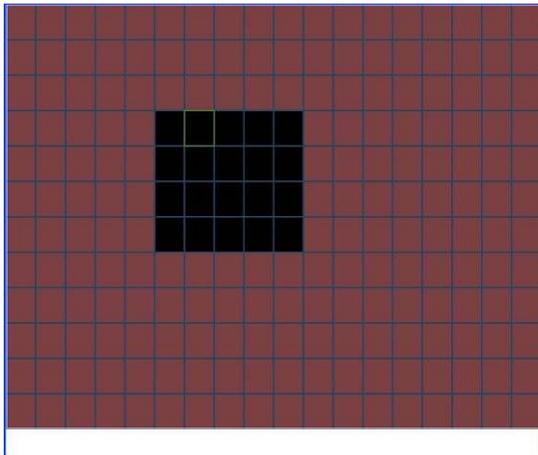

Figure 4-14
- Region: Click select button, the interface is shown as in Figure 4-14. Here you can set motion detection zone. There are 396(PAL)/330(NTSC) small zones.
In Figure 4-14, you can left click mouse and then drag it to set a region for motion detection. Click Fn to switch between arm/withdraw motion detection. After setting, click enter button to exit.